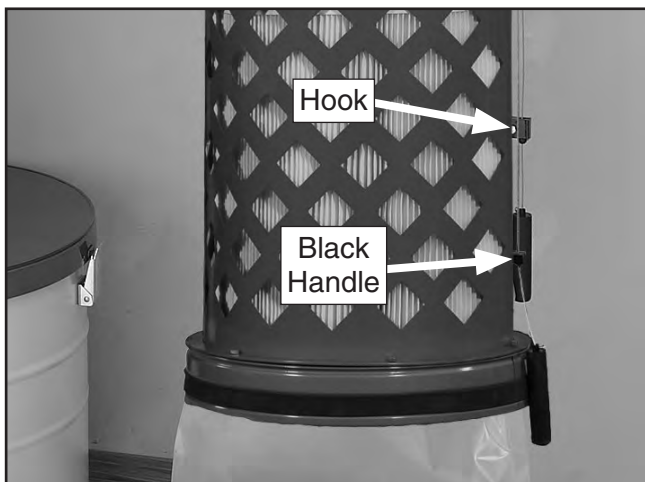

Figure 59. Black handle cable secured in the handle hook.
3. Pull the black handle all the way down and secure the cable into the handle hook at the bottom of the canister assembly, as shown in **Figure 59**, to hold it in place during the following steps.